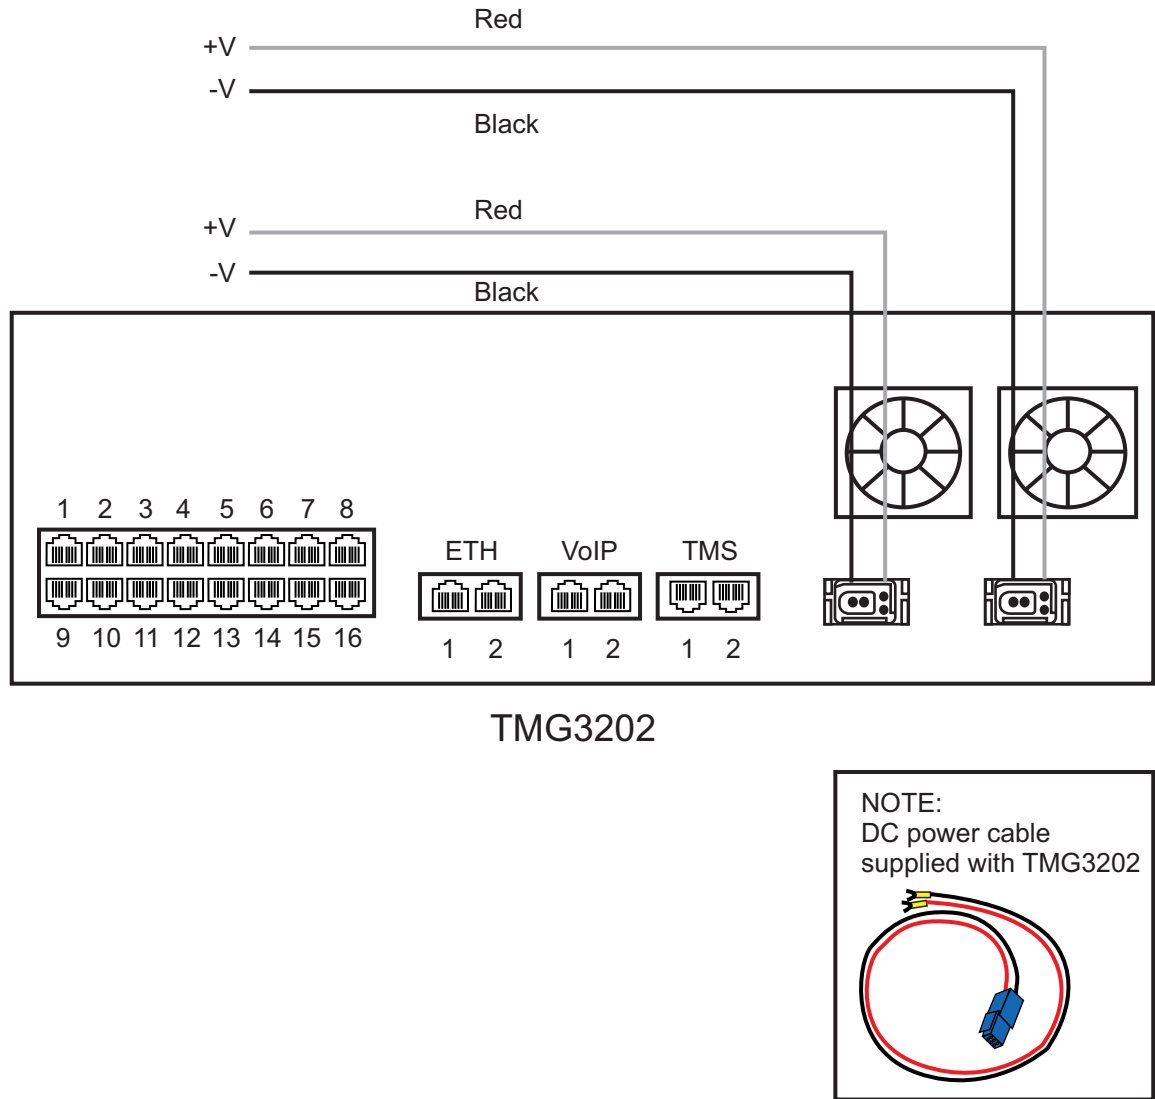

Figure 2.11 TMG3202 DC wiring diagram
1. Connect the DC cable supplied with the TMG3202, as shown in figure 2.11 on page 22, to the DC outlet at the rear of the TMG3202.
2. Connect the red lead of the DC power cable to the positive terminal of the DC power source, as shown in figure 2.11 on page 22.